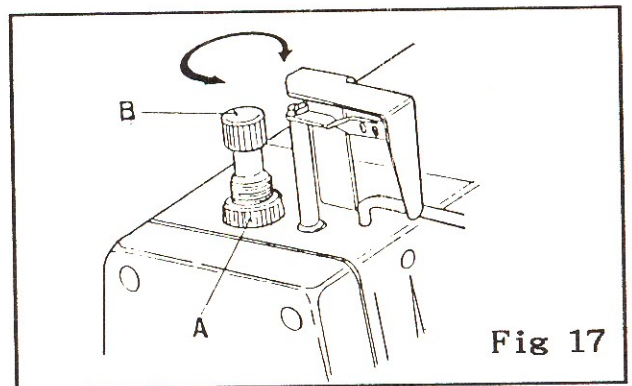

Fig 17
* To adjust, loosen nut (A), turn screw (B) for suitable pressure, then fasten nut (A). (Fig 17)